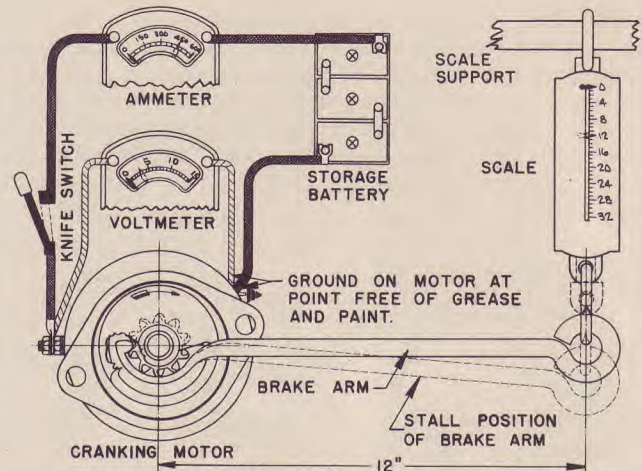

FIGURE 4-11
**Torque Test**—Torque testing equipment such as illustrated in Figure 4-11 may be used to determine if the cranking motor will develop rated torque. A high current carrying variable resistance should be connected into the circuit so the specified voltage at the cranking motor may be obtained since a small variation in the voltage will produce a marked difference in the torque developed.